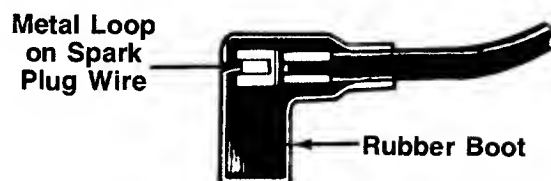

FIGURE 22.
2. Attach spark plug wire to spark plug. Make certain the metal loop on the end of the spark plug wire (inside the rubber boot) is fastened securely over the metal tip on the spark plug. See figure 22.